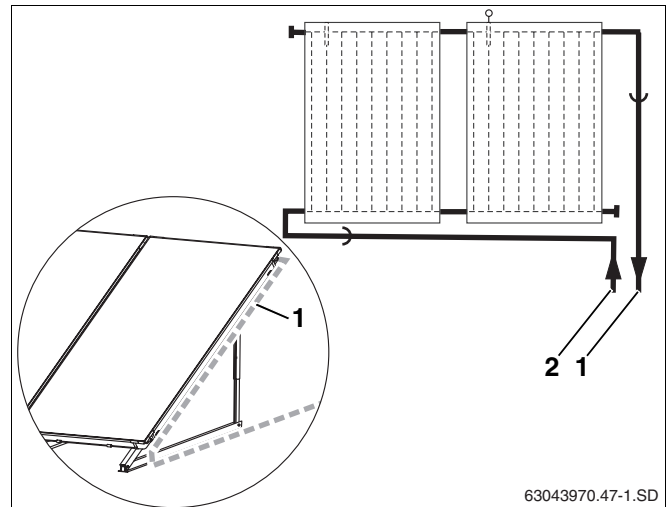

Fig. 55 Feeding header pipes to the collector array
- ▶ Feed the on-site flow line (Fig. 55, **Item 1**) alongside the collector, rather than vertically downwards.
- ▶ Feed solar hose together with the sensor cable through the ventilation tile (Fig. 55, **Item 1**) and through the roof insulation.